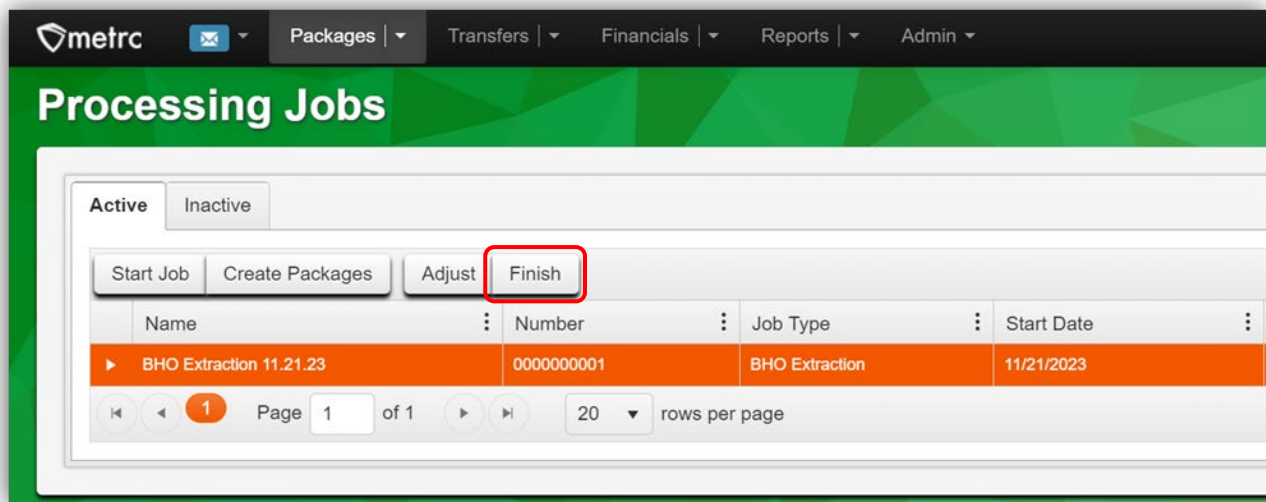

Figure 16: Finish a Processing Job
- Go to the Processing Jobs grid found in the Packages drop-down on the Navigational Toolbar. Select the Active tab, highlight the Processing Job to finish, then select the Finish button – **see Figure 16.**